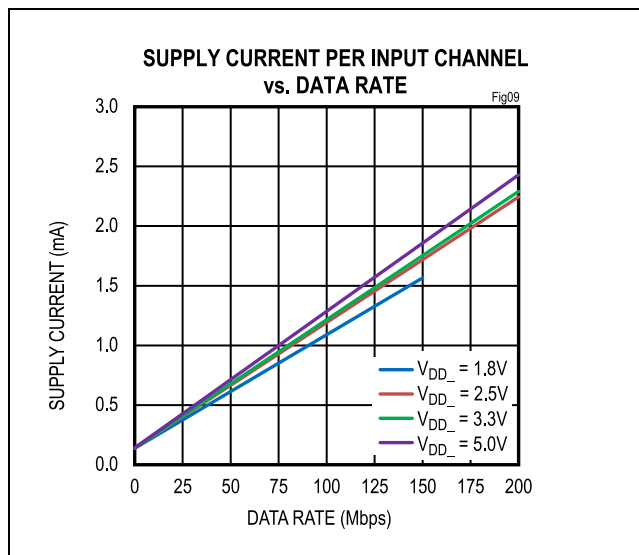
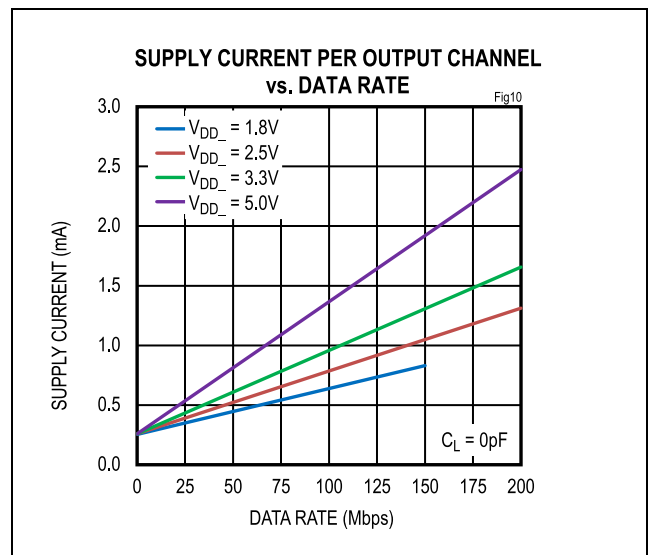

Figure 9. Supply Current Per Input Channel (Calculated)
Figure 10. Supply Current Per Output Channel (Calculated)
The required current for a given supply (V_{DDA} or V_{ddb}) can be estimated by summing the current required for each channel. The supply current for a channel depends on whether the channel is an input or an output, the channel's data rate, and the capacitive or resistive load if it is an output. The typical current for an input or output at any data rate can be estimated from the graphs in Figure 9 and Figure 10. Note that the data in Figure 9 and Figure 10 are extrapolated from the supply current measurements in a typical operating condition.
The total current for a single channel is the sum of the no load current (shown in Figure 9 and Figure 10) which is a function of voltage and data rate, and the load current, which depends on the type of load. Current into a capacitive load is a function of the load capacitance, the switching frequency, and the supply voltage.
- Channel 1 is an input channel operating at 2.5V and 20Mbps, consuming 0.35mA, estimated from Figure 9.
- Channel 2 is an input channel operating at 2.5V and 100Mbps, consuming 1.19mA, estimated from Figure 9.
- Channels 3 and 4 are input channels operating at 2.5V with DC signal, consuming 0.14mA, estimated from Figure 9.
- Channel 5 is an output channel operating at 2.5V and 50Mbps, consuming 0.52mA, estimated from Figure 10.
- Channel 6 is an output channel operating at 2.5V and 200Mbps, consuming 1.31mA, estimated from Figure 10.
- Channel 1 is an output channel operating at 3.3V and 20Mbps, consuming 0.40mA, estimated from Figure 10.
- Channel 2 is an output channel operating at 3.3V and 100Mbps, consuming 0.96mA, estimated from Figure 10.
- Channels 3 and 4 are output channels operating at 3.3V with DC signal, consuming 0.26mA, estimated from Figure 10.
- Channel 5 is an input channel operating at 3.3V and 50Mbps, consuming 0.68mA, estimated from Figure 9.
- Channel 6 is an input channel operating at 3.3V and 200Mbps, consuming 2.29mA, estimated from Figure 9.